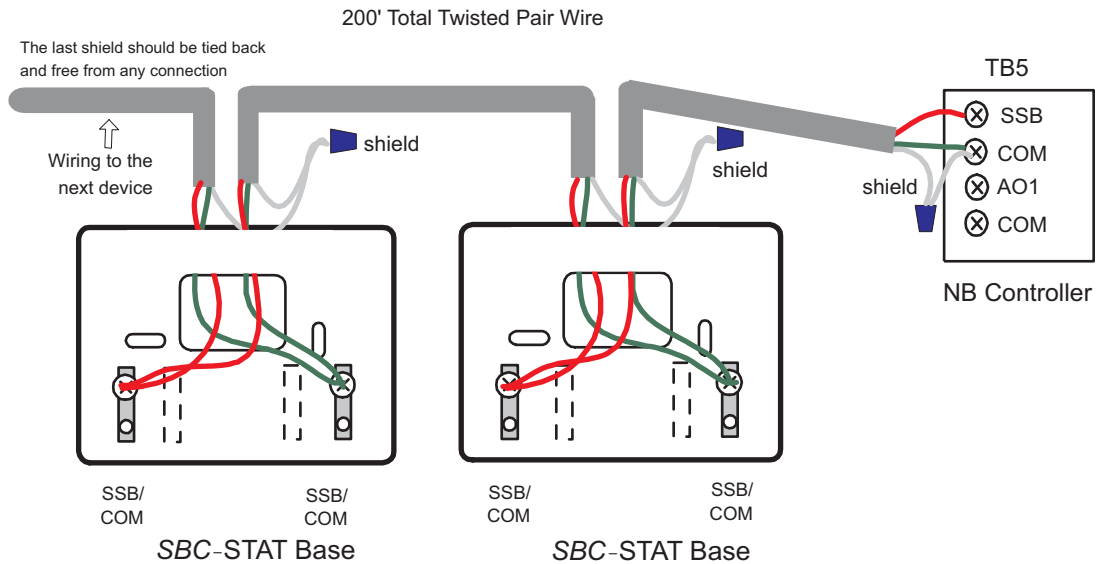

Figure 2-17: SBC-STAT Bus Wiring
Up to four (4) SBC-STATs may be connected to the NB-V3T to provide Zone Temperature measurement. To connect an SBC-STAT to the controller you should connect the SSB terminal of terminal block TB5 to the leftmost connection in the STAT base, labelled “B”. The COM terminal of TB5 should be connected to the terminal labelled “Y”, the rightmost connection, in the STAT base. The wire shield should also be connected to the COM terminal. Figure 2-17 illustrates the proper wiring of the SBC-STAT base to the NB-V3T.